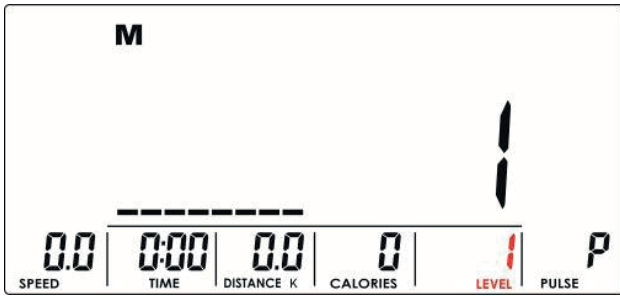

Fig. 4
2. Set the intensity level with the encoder (fig. 4). The default value is 1.